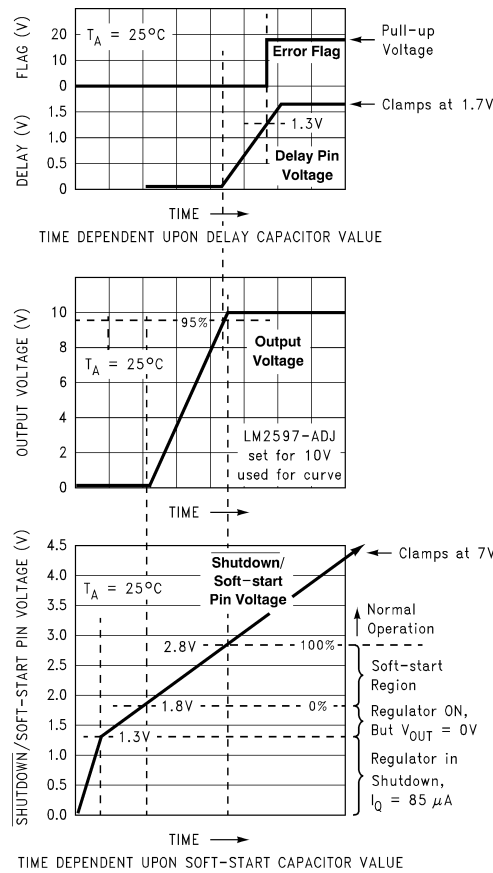
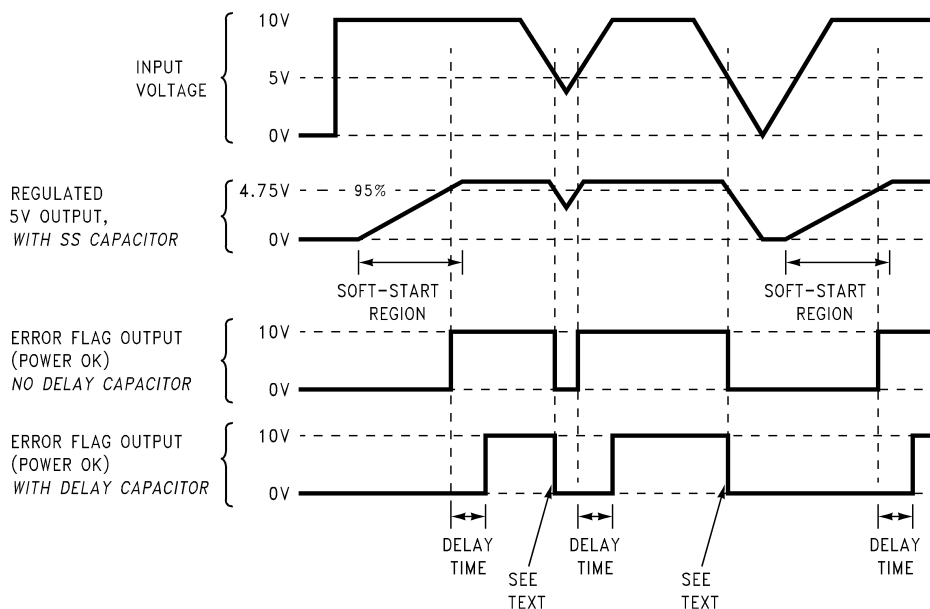

Figure 31. Soft-Start, Delay, Error, and Output
Figure 33. Timing Diagram for 5-V Output
A capacitor on this pin provides the regulator with a soft-start feature (slow start-up). When the DC input voltage is first applied to the regulator, or when the Shutdown/Soft-start pin is allowed to go high, a constant current (approximately 5  $\mu$ A begins charging this capacitor). As the capacitor voltage rises, the regulator goes through four operating regions (see the bottom curve in Figure 31).
3. Soft-start Region – When the  $\overline{SD/SS}$  pin voltage is between 1.8 V and 2.8 V (at 25°C), the regulator is in a soft-start condition. The switch (Pin 8) duty cycle initially starts out very low, with narrow pulses and gradually get wider as the capacitor  $\overline{SD/SS}$  pin ramps up towards 2.8 V. As the duty cycle increases, the output voltage also increases at a controlled ramp up. See the center curve in Figure 31. The input supply current requirement also starts out at a low level for the narrow pulses and ramp up in a controlled manner. This is a very useful feature in some switcher topologies that require large start-up currents (such as the inverting configuration) which can load down the input power supply.
The lower curve shown in Figure 31 shows the soft-start region from 0% to 100%. This is not the duty cycle percentage, but the output voltage percentage. Also, the soft-start voltage range has a negative temperature coefficient associated with it. See the soft-start curve in Electrical Characteristics.
Provides delay for the error flag output. See the upper curve in Figure 31, and also refer to timing diagrams in Figure 33. A capacitor on this pin provides a time delay between the time the regulated output voltage (when it is increasing in value) reaches 95% of the nominal output voltage, and the time the error flag output goes high. A 3- $\mu A$  constant current from the delay pin charges the delay capacitor resulting in a voltage ramp. When this voltage reaches a threshold of approximately 1.3 V, the open collector error flag output (or power OK) goes high. This signal can be used to indicate that the regulated output has reached the correct voltage and has stabilized.